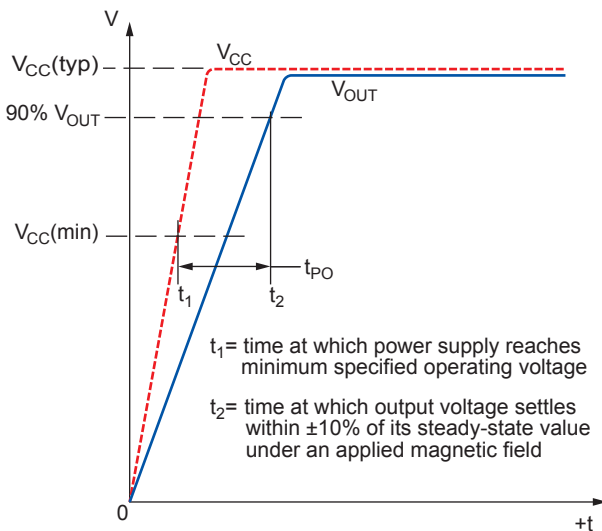

Figure 1. Definition of Power-On Time,  $t_{PO}$
**Power-On Time.** When the supply is ramped to its operating voltage, the device output requires a finite time to react to an input magnetic field. Power-On Time,  $t_{PO}$ , is defined as the time it takes for the output voltage to begin responding to an applied magnetic field after the power supply has reached its minimum specified operating voltage,  $V_{CC}(\text{min})$ , as shown in figure 1.